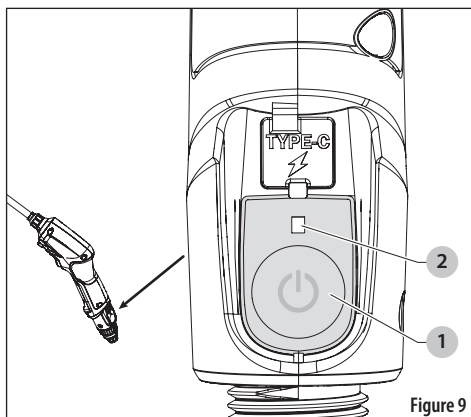

Figure 9
1. Push the power button (1) to the ON position. A light (2) above the power button turns on to indicate the battery level. See Figure 9.